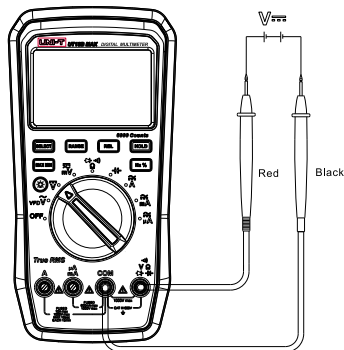

Figure 4
2. DC Voltage Measurement (Figure 4)